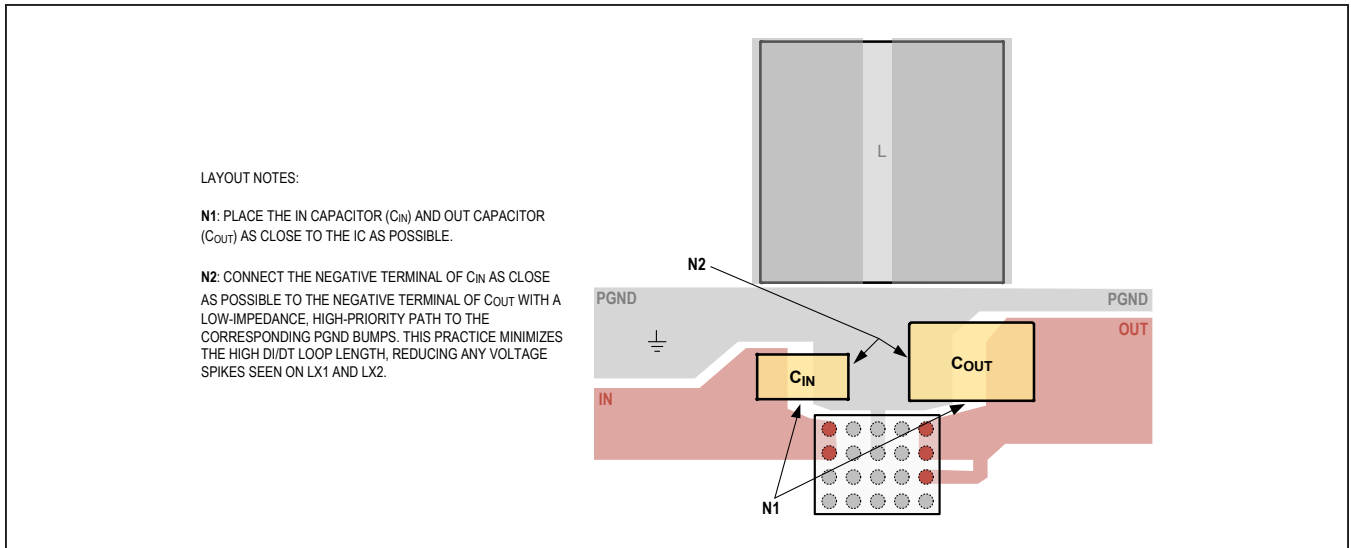

Figure 7. Recommended Capacitor Placement
- 1) Place the input capacitors (C_{IN}) and output capacitors (C_{OUT}) immediately next to the IN pin and OUT pin, respectively, of the IC. Since the IC operates at a high switching frequency, this placement is critical for minimizing parasitic inductance within the input and output current loops, which can cause high-voltage spikes and may damage the internal switching MOSFETs. See Figure 7 for an illustration.